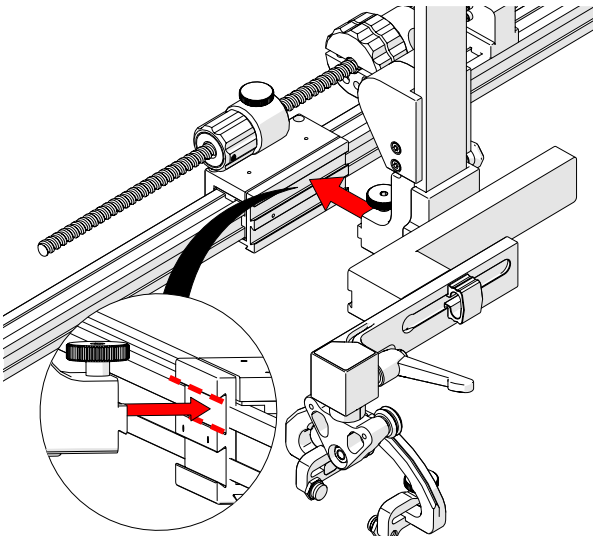

Fig. 206 - Mount to slider pps
2. Loosen the probe holder adjustment knob to attach the encoded skew vertical probe holder to the slider pps slider (Fig. 206).